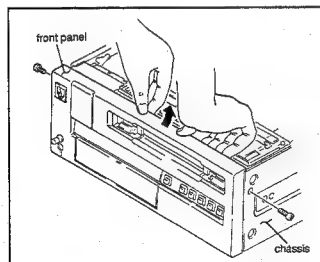

Fig. 1
- Insert your fingers in the place between the front panel and chassis, then remove the front panel as shown in the fig. 1.